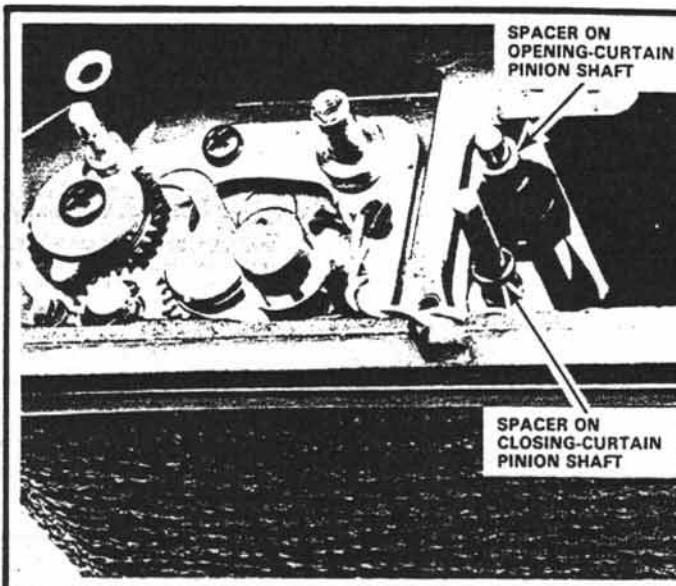

Figure 170
**CAUTION:** Be careful that you don't turn over the camera after removing the winding-rollers support plate -- there are loose spacers on the ends of the pinion shafts, Fig. 170. There may also be loose endplay washers.
Lift the spacer from the opening-curtain pinion shaft, Fig. 170; again, watch for endplay washers which may or may not be present in your camera. Then, lift the spacer from the closing-curtain pinion shaft. Notice that the spacer for the opening-curtain pinion shaft is longer than is the spacer for the closing-curtain pinion shaft.